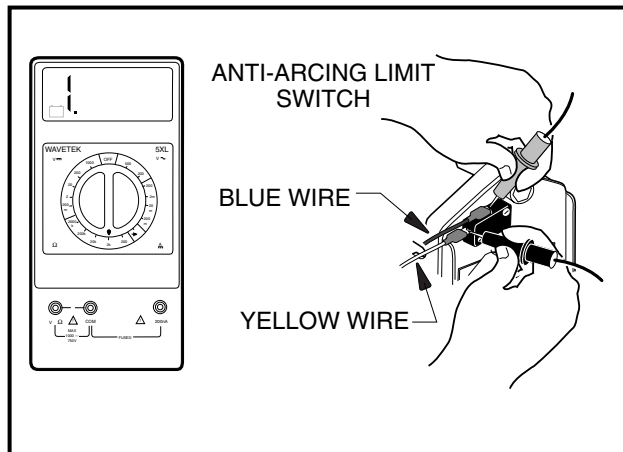

Figure 11-5 Forward/Reverse Anti-arcing Limit Switch Test
2. Place the red (+) probe of the multimeter (set to  $\Omega$ ) on the common terminal of the limit switch, and place the black (–) probe on the normally open (NO) terminal. The reading should be continuity when the limit switch lever is pressed and no continuity when the lever is released (**Figure 11-5, Page 11-9**).